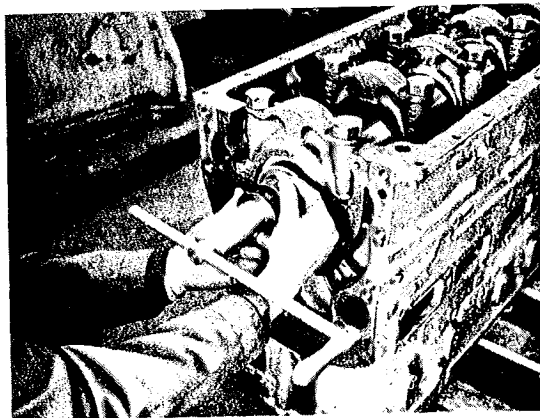

FIG. 5 ADJUSTING CUTTING DEPTH
9. Adjust the cutter cutting depth by loosening the thumb screw and rotating the feed collar clockwise (each line represents 0.001"). See fig. 5.